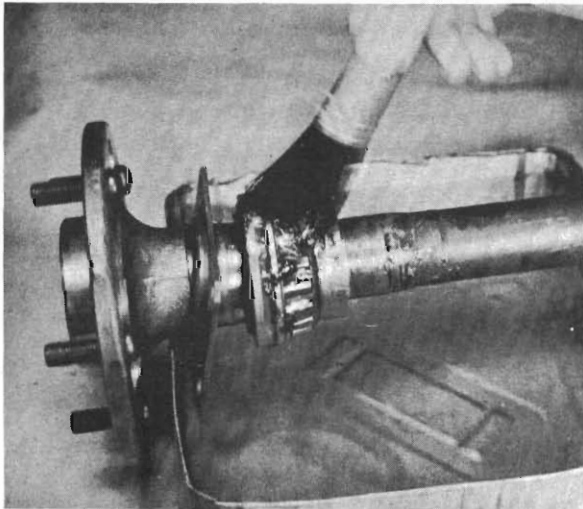

Fig. 4 - Cleaning bearing cone and seal on the shaft.
(1) Clean the bearing using only a solvent which will not affect the oil seal material. Refer Fig. 4.